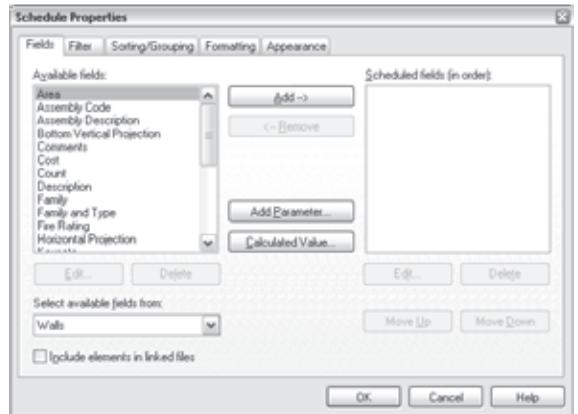

Figure 11.11
5. Select the fields to be scheduled (see Figure 11.11). The fields are parameters used by the category, and they all appear in the properties of the element being scheduled. Add a field by double-clicking the name of the field in the left pane or by selecting the field and clicking the Add button. Doing so moves the field from the left to the right column. Or, you can remove a field by selecting it in the right column and clicking Remove.